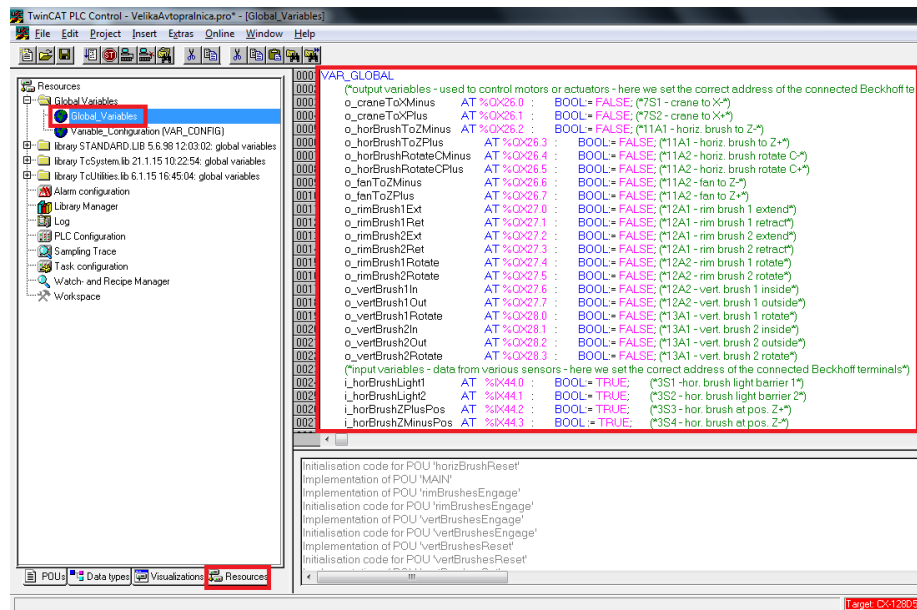

Figure 3.11: TwinCAT PLC Control - Global variables
- **global** : accessible from any part of the PLC application (see Figure 3.11)